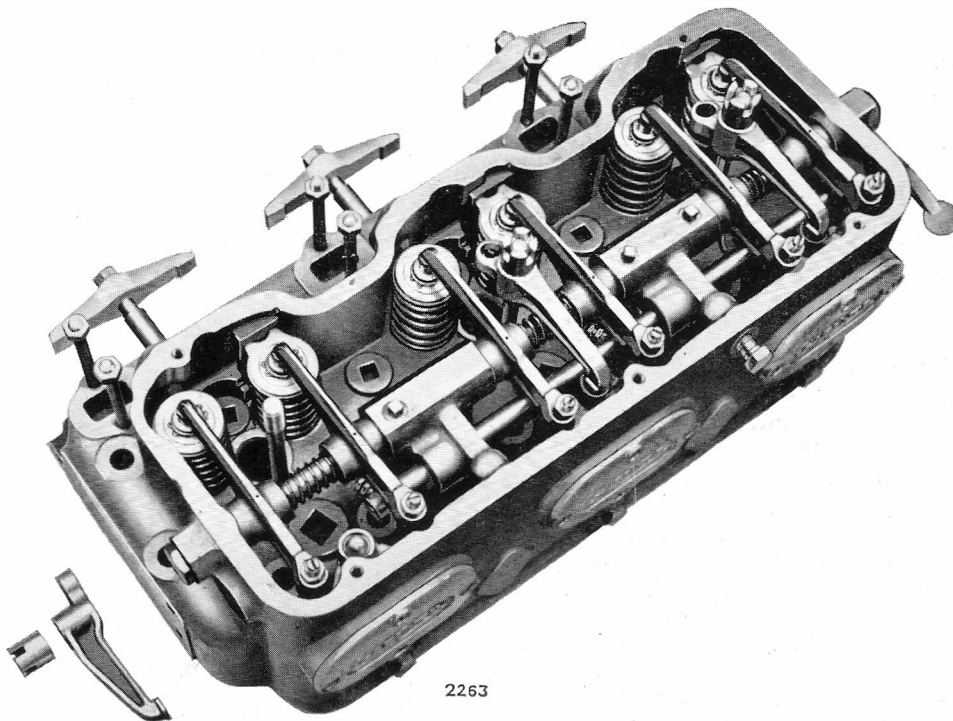

Fig. 20. Valves, Valve Levers and Decompression Gear
57. **DECOMPRESSION LIFT OF INLET VALVE.** The decompression levers at the rear of each cylinder head operate small shafts in which are fitted adjustable screws with locknuts adjacent to each inlet valve. See Fig. 20.